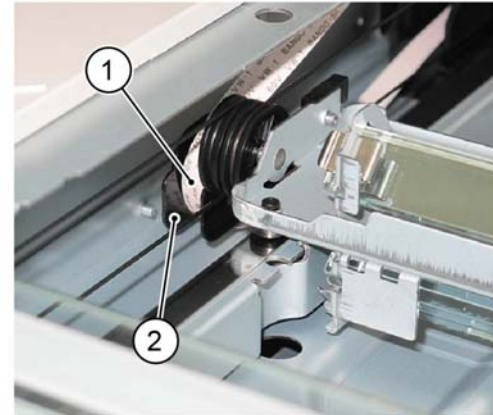

Figure 4 Harness guide
7. Disconnect the FFC LED cable assembly (1) from the half rate carriage harness guide (2), **Figure 4**.